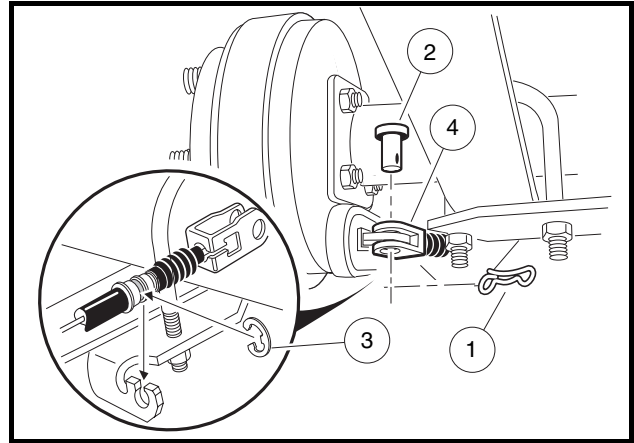

Figure 23-7 Disconnect Brakes
- Remove the bow-tie pins (1), brake cable clevis pins (2), and cable retaining E-clips (3). Disconnect the brake cables (4) (**Figure 23-7, Page 23-5**).